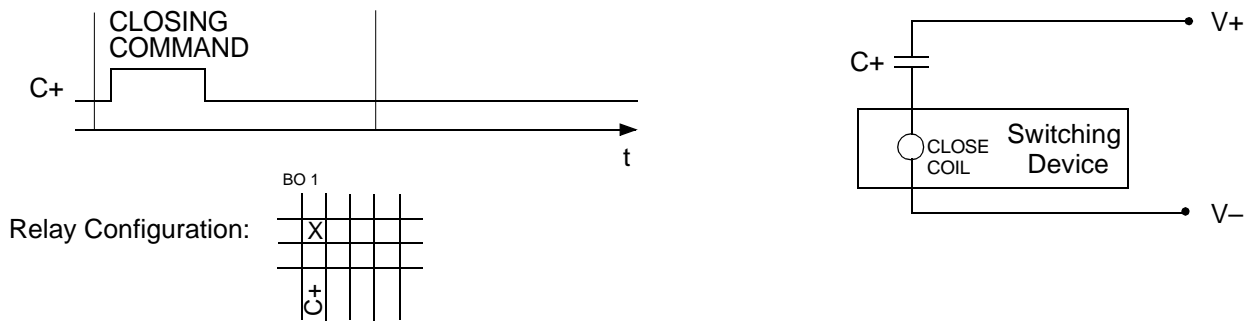

Figure 5-4 Single Command with Single Output
- For each device to be controlled, determine if switching is to be done with 1 contact, $1\frac{1}{2}$ contacts (single contact and common), or 2 contacts; with a single or double command; and with or without feedback signals. See Table 5-1 and Figures 5-4 to 5-12. The information to be processed and the command type are determined with these decisions.
- The TRIP (OFF)–command is always configured prior to the associated CLOSE (ON)–command;
Table 5-1 shows the most important command types. They are made available as options in the Configuration Matrix for the SIPROTEC[®] device (see also “Binary Outputs for Switching Devices” in Sub-section 5.2.4). All double commands, with and without feedback indications, are also available as transformer step commands. The following Figures 5-4 through 5-9 show time diagrams, control settings, and the sequence of relay positioning in the configuration matrix for frequently used command types.
For Figures 5-4 through 5-9, the following abbreviations apply: